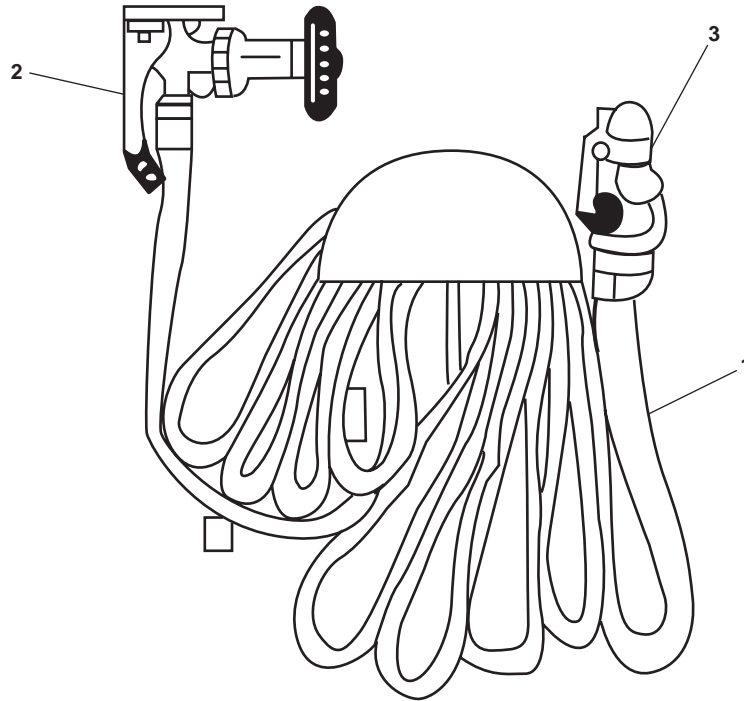

Figure 2. Fire Station
There are 11 fire stations located throughout the vessel. Each is provided with 50 feet (5.2 meters) of 1-1/2 inch diameter high pressure fire hose (figure 2, item 1), a spanner wrench (figure 2, item 2), and an all-purpose nozzle (figure 2, item 3).